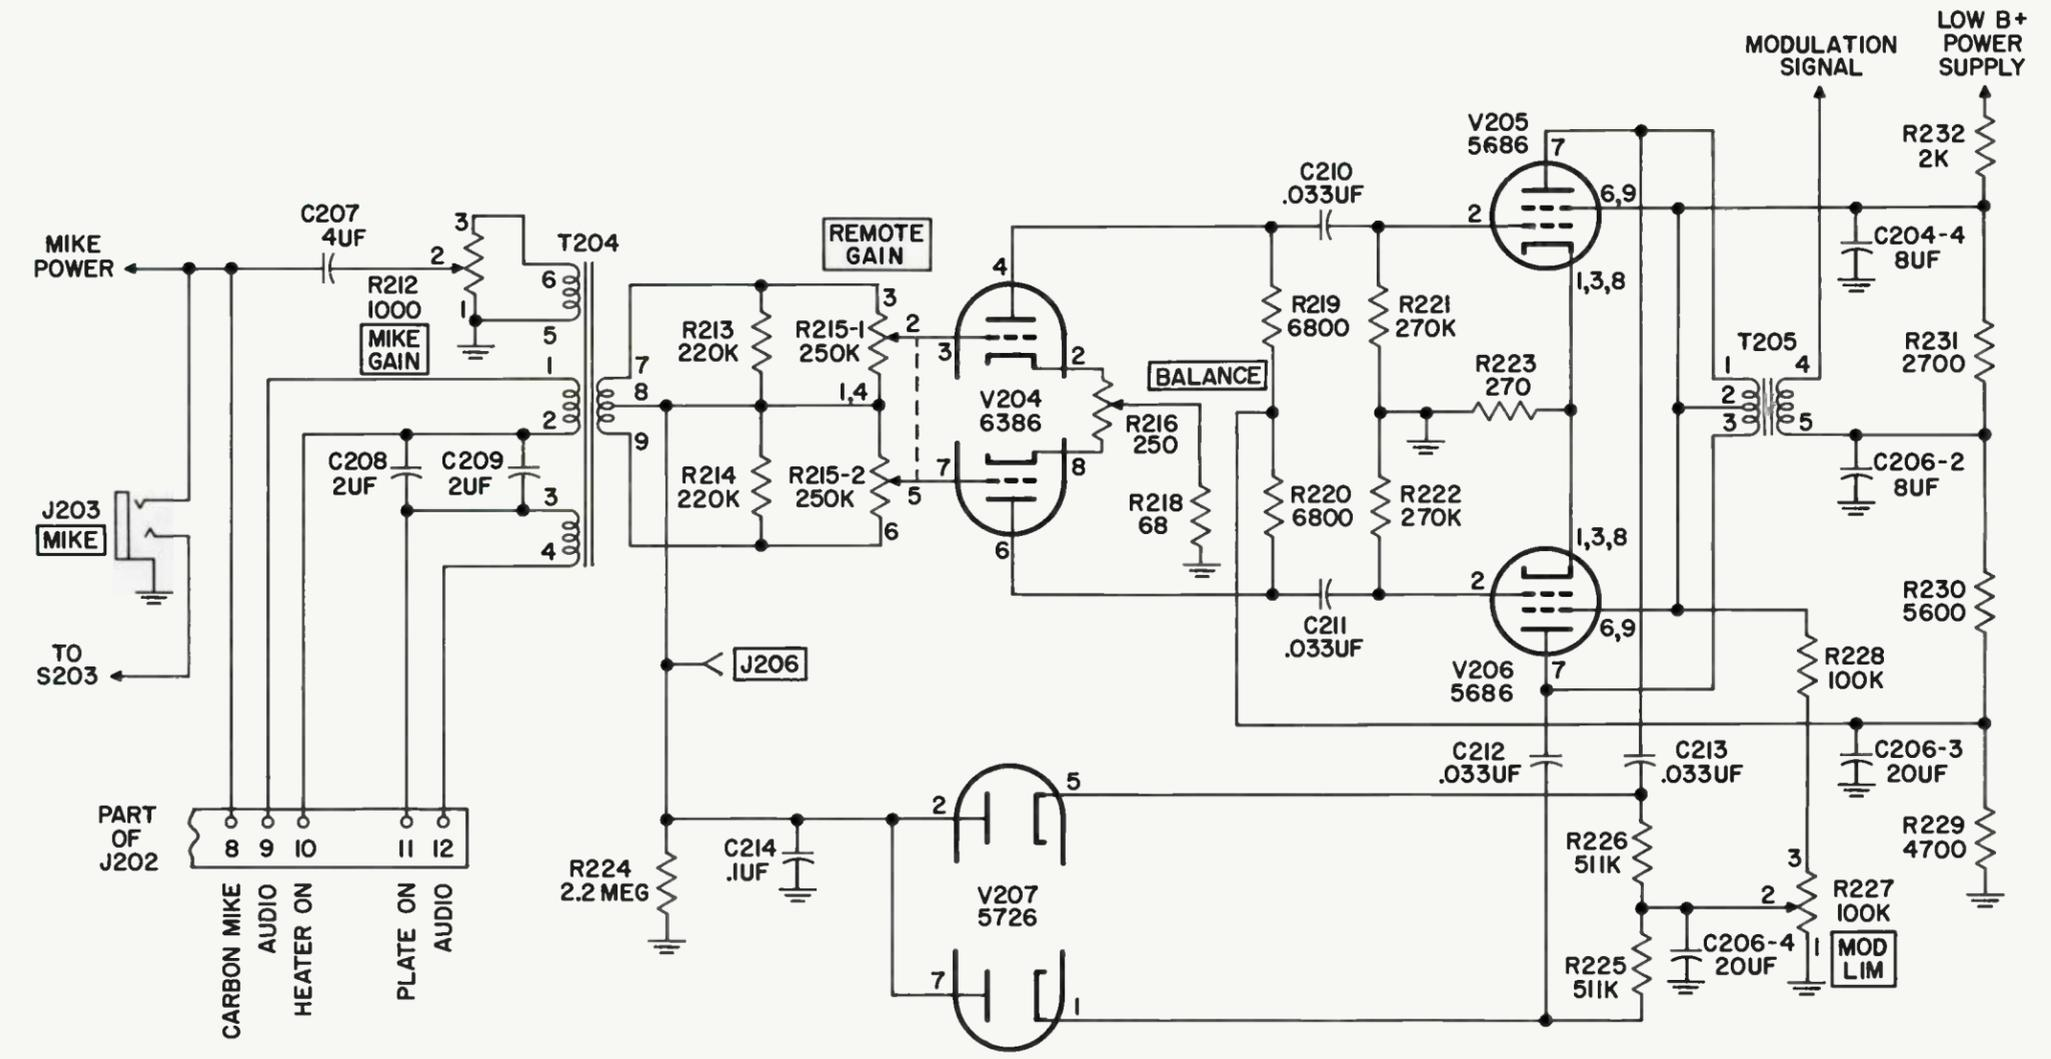

Figure 4-8. Audio Amplifiers and Modulator
4.3.2.1 AUDIO INPUTS. (Refer to figure 4-8.) All signal inputs used to modulate the r-f carrier of Transmitter 242F-5CL are applied through the modulator-power supply unit. The modulating signal is applied either at J202 or J203, the local microphone input jack.
4.3.2.2 AUDIO AMPLIFIER. (Refer to figure 4-8.) Input voltages on the primary windings of T204 are coupled to the secondary and applied to the control grids of V204. Potentiometers R215-1 and R215-2 are ganged to assure that equal signal voltages will be applied to each half of the tube. BAL control R216 corrects unbalance between V204A and V204B. The amplified output of this stage is capacitively coupled to the input of the modulator stage. An audio compression voltage is applied from grid to ground and is controlled by V207.
4.3.2.3 MODULATOR STAGE. (Refer to figure 4-8.) The amplified audio signal is coupled to the grids of V205 and V206, which form the push-pull modulator circuit. Plate and screen voltages are supplied by